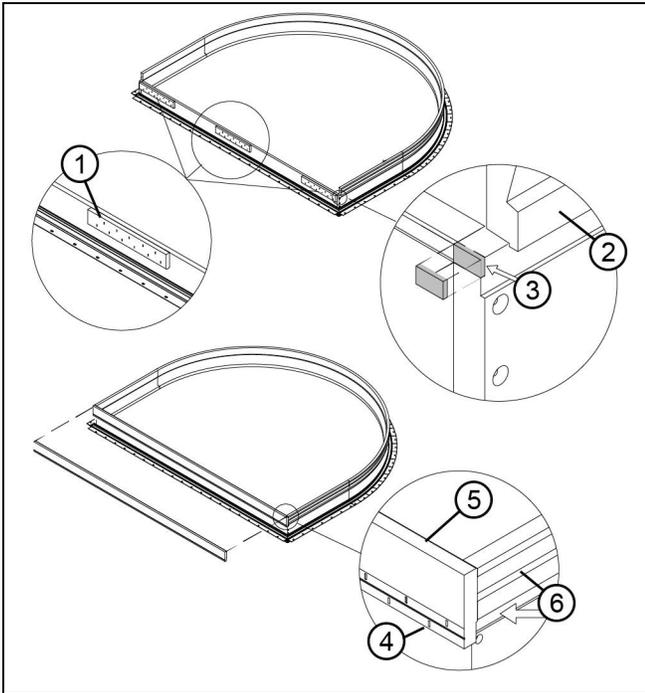

Figure 39
2. For mulling ELALDGRT units to inswing door units with 6 9/16" jambs W8430 jamb extension is supplied. Remove shipping blocks and trim jamb as shown in Figure 39. Cut horizontal mull filler to length and apply with 3/16" staples as shown in Figure 39.